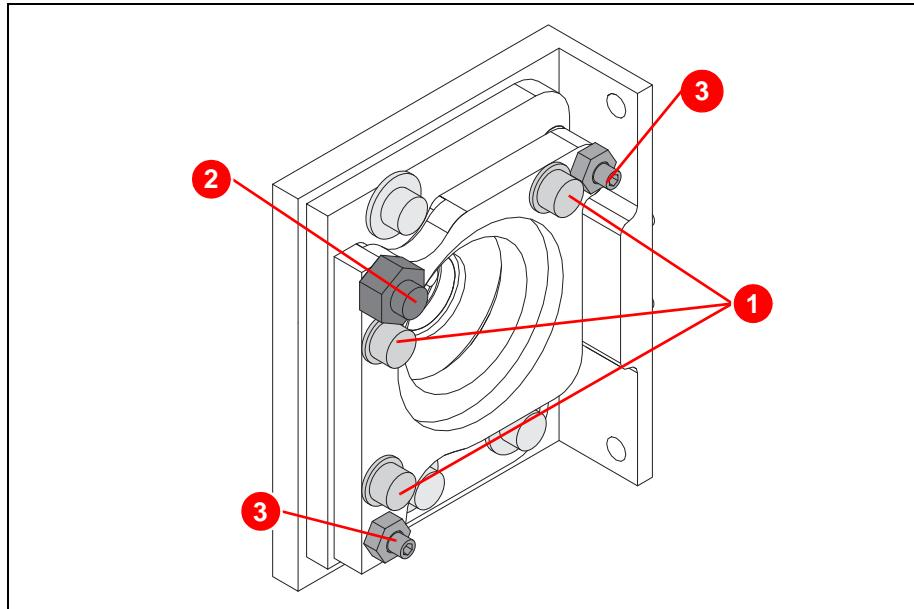

Figure 6.30 Basic setting of the beam expander mount
- To adjust, loosen screws (1) (Figure 6.30) and set the distance using the support screws (2 and 3).
- Tighten the screws (1) hand-tight again.